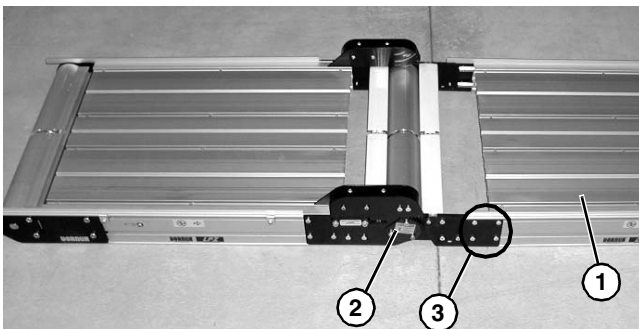

Figure 8
4. Slide frame (**Figure 8, item 1**) into lower knuckle (**Figure 8, item 2**). Tighten screws (**Figure 8, item 3**) to 60 in-lb (7 Nm) on both sides of conveyor.